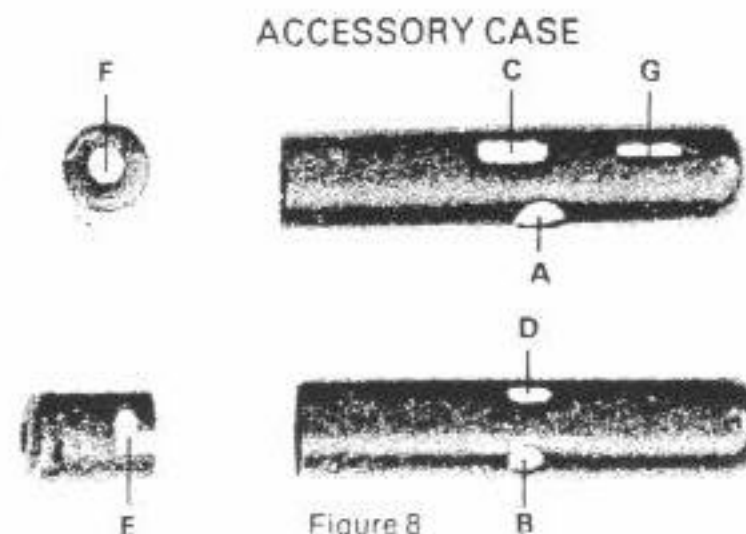

Figure 8
1. Insert the small end of the cleaning rod through the large hole in the accessory case so that the head of the cleaning rod passes inside the accessory case and butts against the case wall. (See Figure 8.)